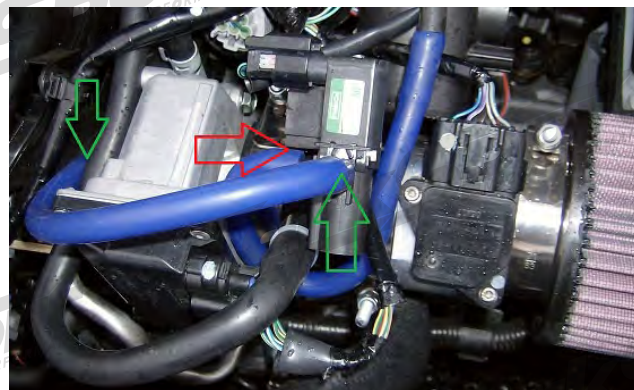

Figure 10
F) Insert the other end of the 10in long 4mm silicone hose that you connected in the last step to the air temperature sensor (hollow red arrow shown in Figure 10).
G) Insert the other 10in long 4mm silicone hose into the other connection on the air temperature sensor. The other end of that hose will connect to the other side of the throttle body (the two (2) hollow green arrows shown in Figure 10).